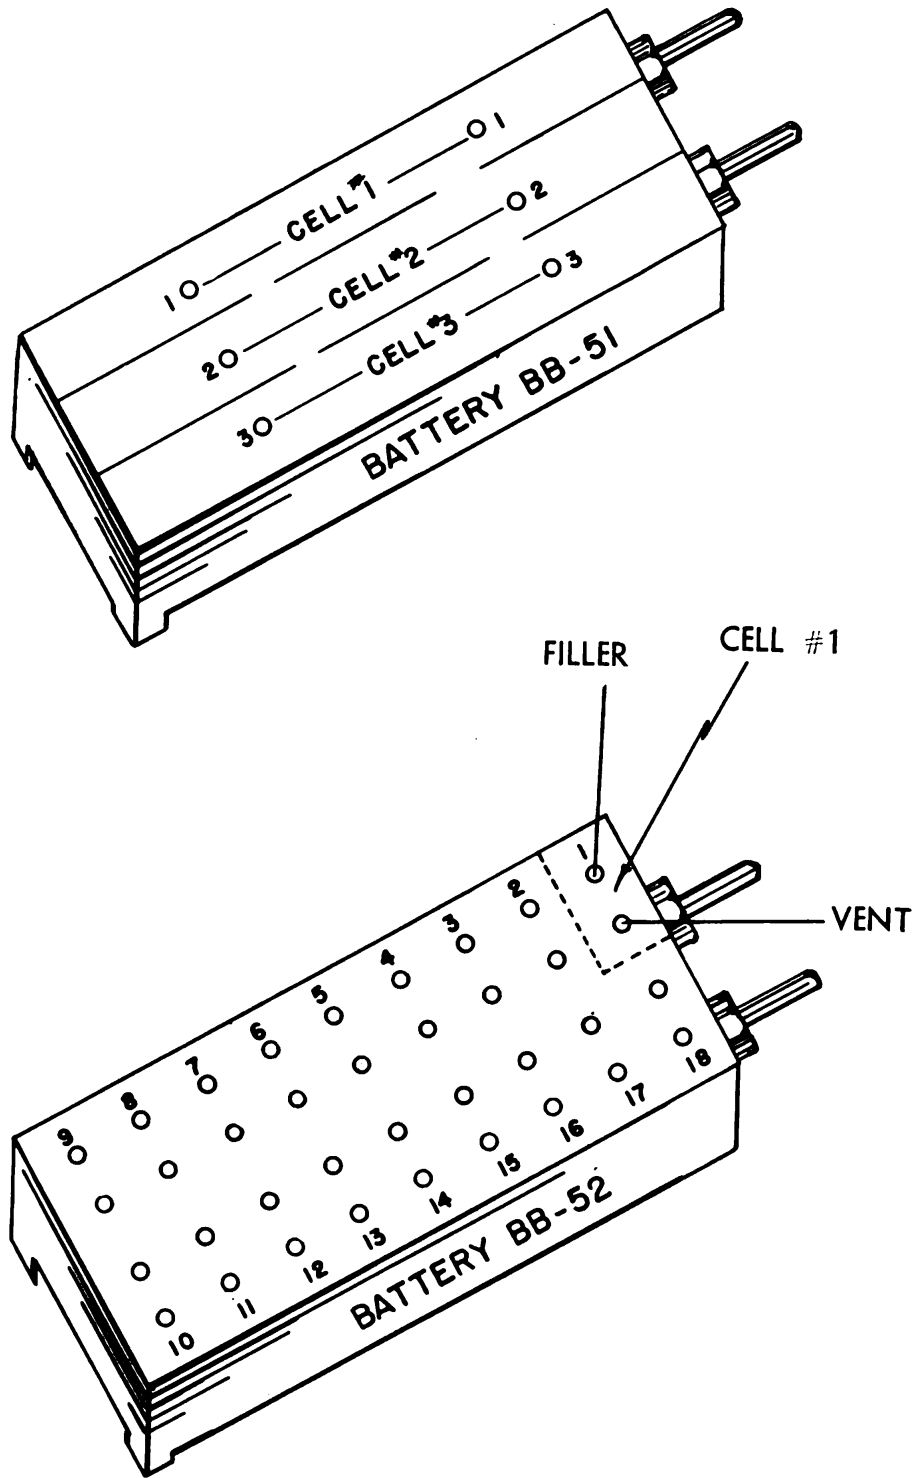

Figure 7. Miniature Storage Batteries BB-51 and BB-52
(1) Remove one set of batteries from the tray. A set of batteries contains: one “A” battery and two “B” batteries, labeled BB-51 and BB-52, respectively. The “A” Batteries (BB-51) have six pin holes on top while the “B” Batteries (BB-52) have a large number of pin holes on top.
(2) Remove the acid bottle and fill it with sulfuric acid (1.280 specific gravity) from the container which is shipped with the batteries. If this container is missing or broken, have the acid bottle filled at your supply base using acid for vehicular batteries. **Caution: Sulfuric acid is very corrosive to metal and destructive to fabrics. Don't let it get on equipment or clothing. Be careful.**
8. Filling the Batteries.— Miniature storage batteries BB-51 and BB-52 (figure 7) are charged, but dry, and before they can be used for generating current their cells must be filled with sulfuric acid. Before filling the hypodermic syringe with acid to put in the cells, however, the empty syringe should be used to pierce the seals inside the cell holes of each battery (6 for BB-51, 36 for BB-52). Push the needle into the cell hole as far as it will go with a light finger-pressure.
- (1) Insert needle into either of the previously-punctured holes numbered 1 of cell #1 (figure 7).
- (2) Slowly force the acid out of the syringe by pushing the plunger with the thumb.
- (3) Approximately 6 cc of sulfuric acid are needed to fill each cell in the BB-51.
- (4) **DON'TS**